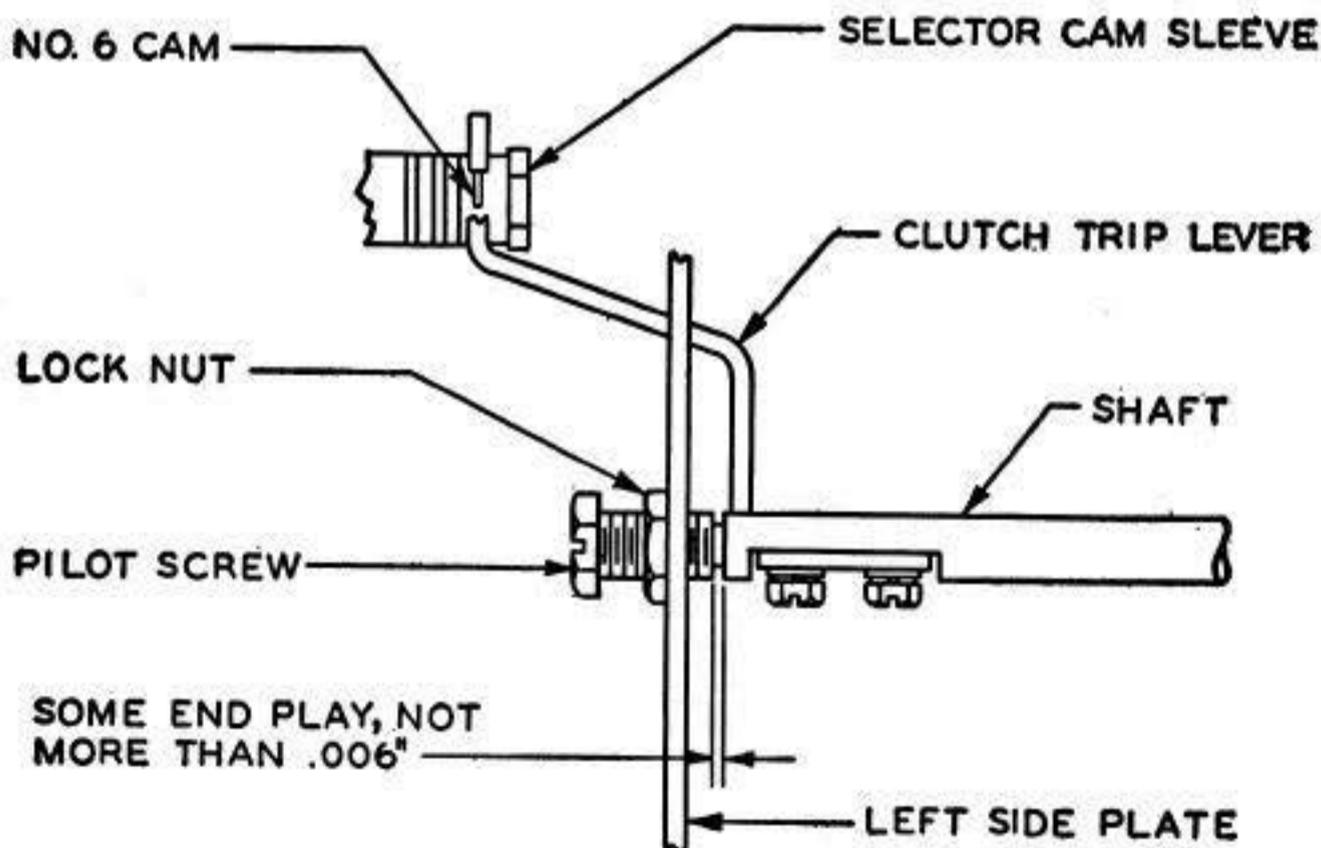

Fig 27
- (1) With the unit resting on its front, rotate the main shaft until the detent lever is resting on the high part of the detent-cam.
- (2) Hook the pull-end of an 8-oz scale under the detent lever just to the rear of its pointed surface and pull at right angles to the lever.
3.46 Clutch Trip-Lever: The clutch trip-lever should be centered on its cam (the cam on the selector cam sleeve farthest from the rangefinder) and there should be some end-play, not more than .006" in the blocking-lever shaft. **Fig 27**
- (1) Rotate the main shaft until the clutch trip-lever (shown in Fig 27) is on the peak of its cam.
- (2) With the selector-cam assembly held in this position, continue to rotate the main shaft until the tip of the clutch lever is opposite the blocking lever.
Note: In order to meet the requirements of this paragraph, it may be necessary to use the clearance in the mounting holes of the clutch trip-lever (see Fig 27). If the clutch trip-lever is moved for this purpose, recheck Paragraph 3.46.